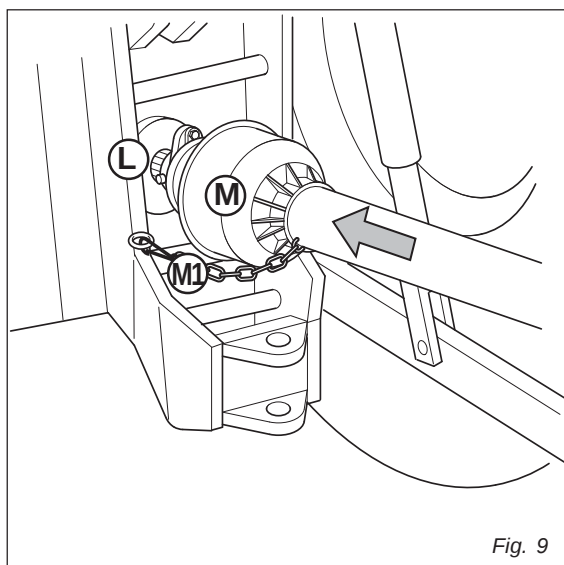

Fig. 9
5. Install PTO shaft to tractor (Fig. 9).